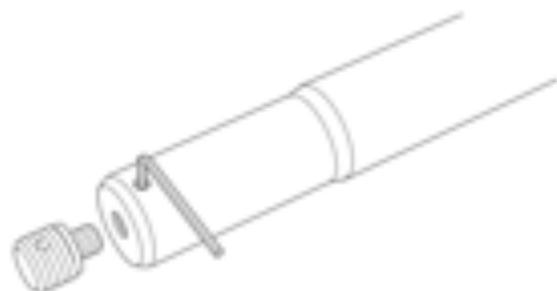

Figure 32: Pole with M20 Lug Removed
- Tighten the set screws enough to ensure they will remain in the pole (Figure 32).